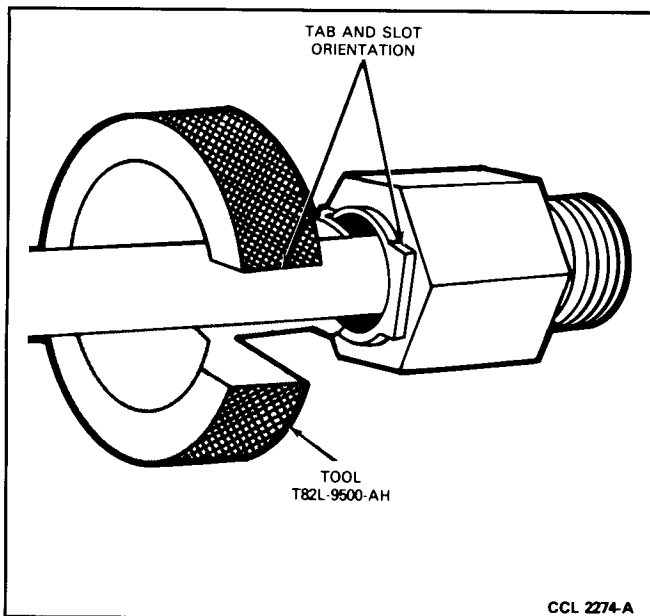

FIG. 3 Oil Cooler Line Quick Connect Coupling Disconnect Tool
2. Disconnect the automatic transmission fluid cooler inlet and outlet lines from the radiator using Tool T82L-9500-AH or equivalent (Fig. 3).